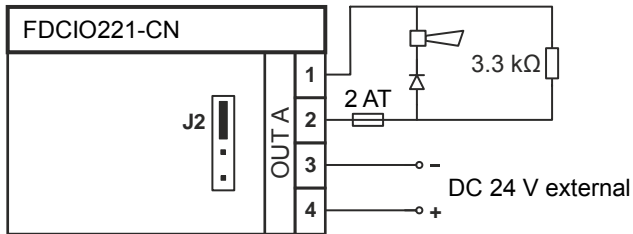
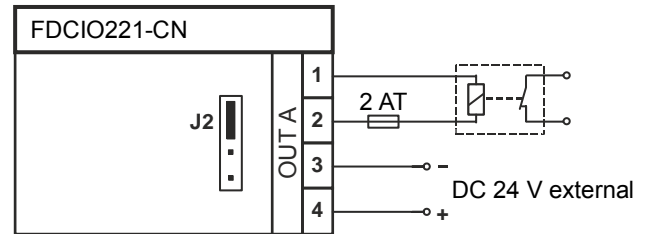
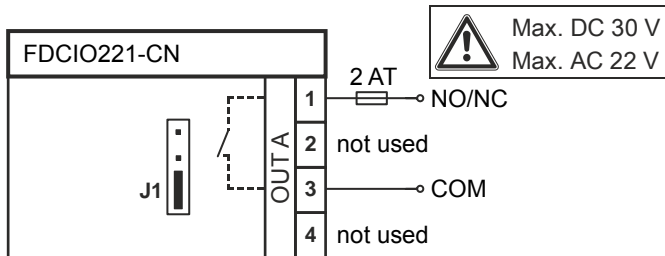

Fig. 9
Fig. 10
Fig. 11
- 'Normal operation' output: Fig. 9
- 'Inverted operation' output: Fig. 10
- Output not monitored: Fig. 11
- External VD 24 V supply: Fig. 9/Fig. 10
4. Connect the jumper to J1/J2 depending on how the output is being used and connect the additional components as shown in Fig. 9, Fig. 10 or Fig. 11. Be sure to connect the resistor (Fig. 9) at the end of the line.